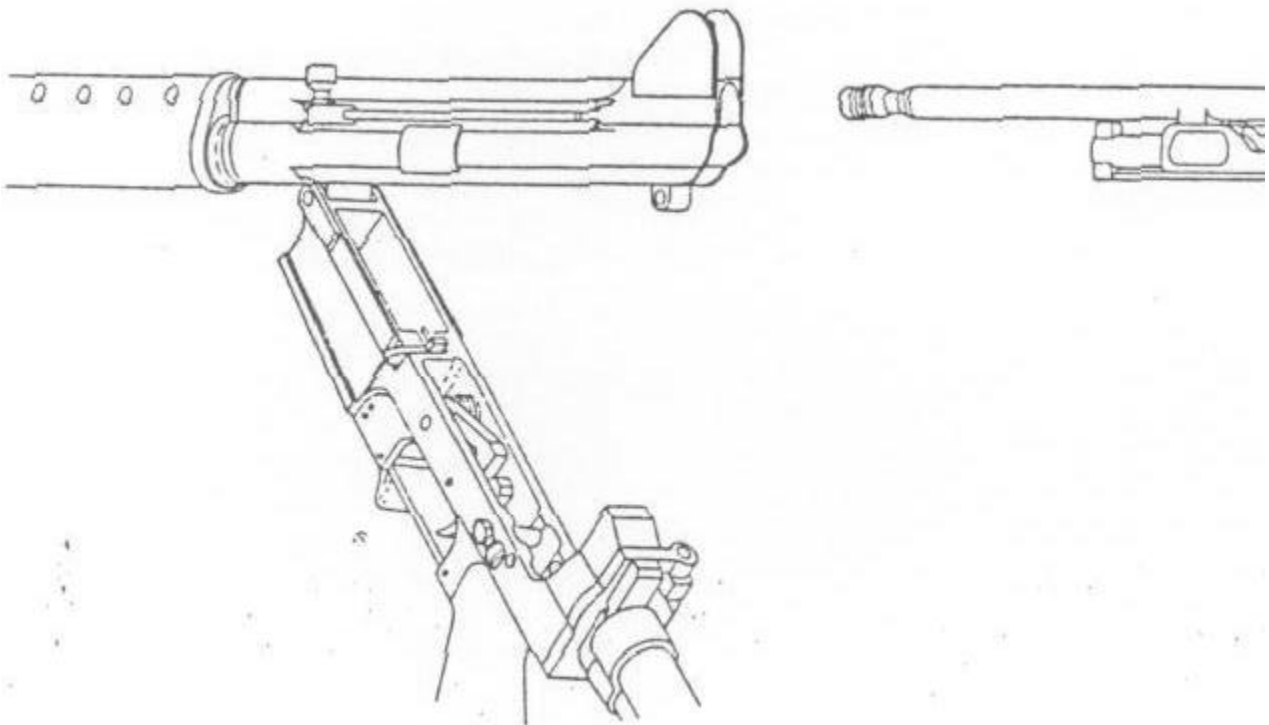

FIGURE 26
22. Keep the bolt fully extended while inserting the bolt carrier group/gas piston assembly back into the upper receiver. Insure that the hammer is cocked and that the selector switch is in the "SAFE" position during reassembly. (See Figure 26).